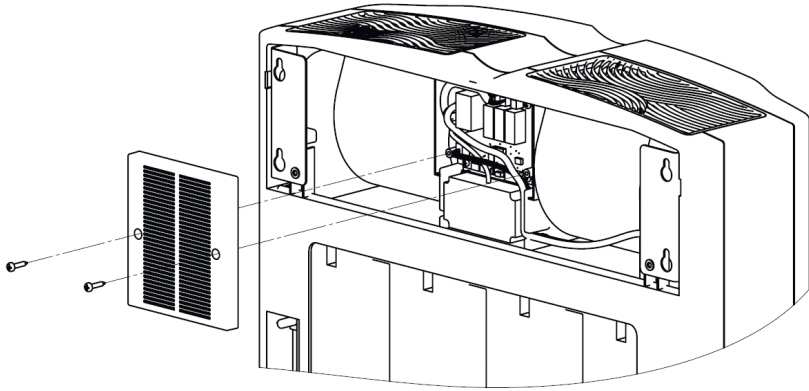

Figure 24. Lid for the electronic control unit
12. Unscrew 2 bolts fixing the electrostatic unit lid and remove the latter (Figure 24);